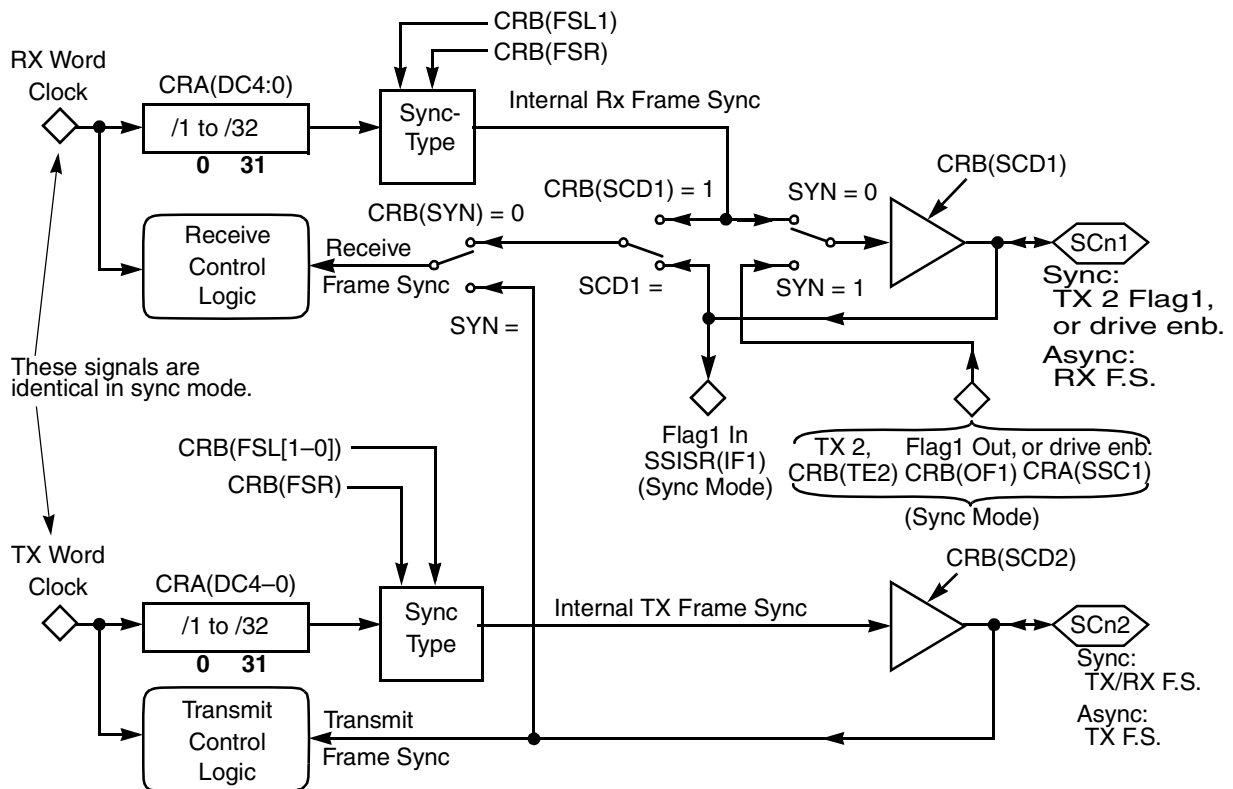

Figure 7-4. ESSI Frame Sync Generator Functional Block Diagram
| 16–12 | DC[4–0] | 0 | Frame Rate Divider Control Control the divide ratio for the programmable frame rate dividers that generate the frame clocks. In Network mode, this ratio is the number of words per frame minus one. In Normal mode, this ratio determines the word transfer rate. The divide ratio ranges from 1 to 32 (DC = 00000 to 11111) for Normal mode and 2 to 32 (DC = 00001 to 11111) for Network mode. A divide ratio of one (DC = 00000) in Network mode is a special case known as On-Demand mode. In Normal mode, a divide ratio of one (DC = 00000) provides continuous periodic data word transfers. A bit-length frame sync must be used in this case; you select it by setting the FSL[1–0] bits in the CRA to (01). Figure 7-4 shows the ESSI frame sync generator functional block diagram. |